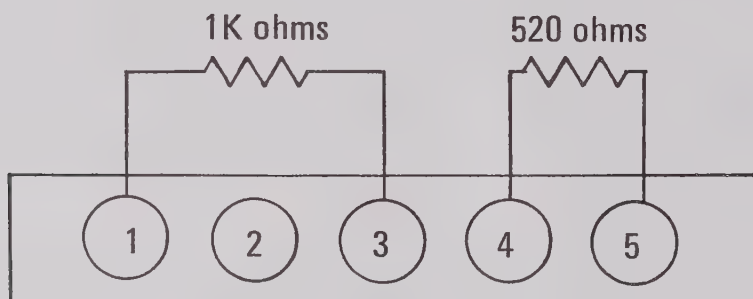

Figure 8. Test Plug connections (1K ohm/20 ohms).
4. Test Plug with two resistors, 1K ohms $\pm 0.05\%$ and 520 ohms $\pm 0.05\%$, see Figures 8.